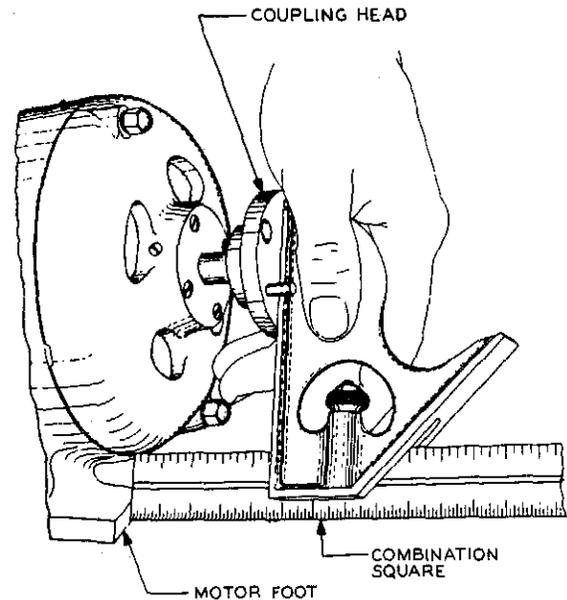

Fig. 8 - Method of Measuring Distance Between Motor Coupling Head and Motor Foot
(1) To check the location of the motor coupling head on the end of the drive motor shaft, remove the motor from the frame, place the long side of the head of a combination square against the face of the coupling, and slide the blade of the square through the slot in the head until the end of the blade touches the finished surface of the motor foot. Revolve the coupling one-half turn and recheck the distance. See Fig. 8.
(2) If the mean distance is not within the specified distance, loosen the Bristo setscrew with the No. 295 tool and shift the coupling head as required. After an adjustment, tighten the setscrews firmly.